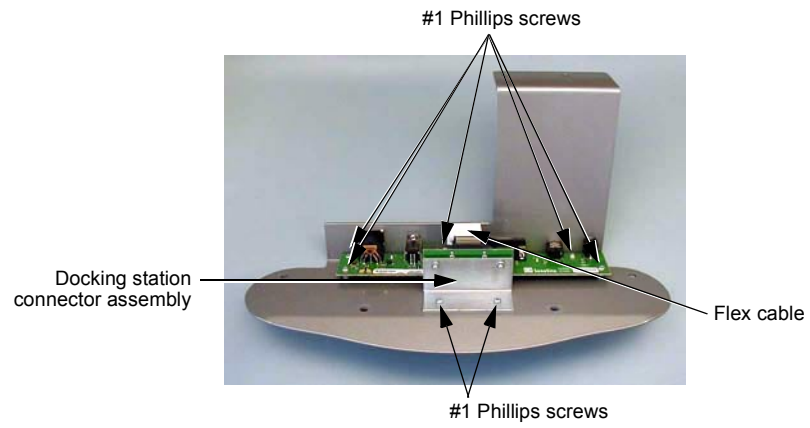

Figure 7.22 PCBA
- 3 Remove the PCBA by 1) removing the flex cable by releasing the locking mechanism on each cable connector, (Note: the locking mechanism remains on the connector, do not remove), 2) remove the two Phillips head screws holding the docking station connector assembly to the frame, and 3) remove the five (5) Phillips screws holding the PCB to the frame. (Figure 7.22)